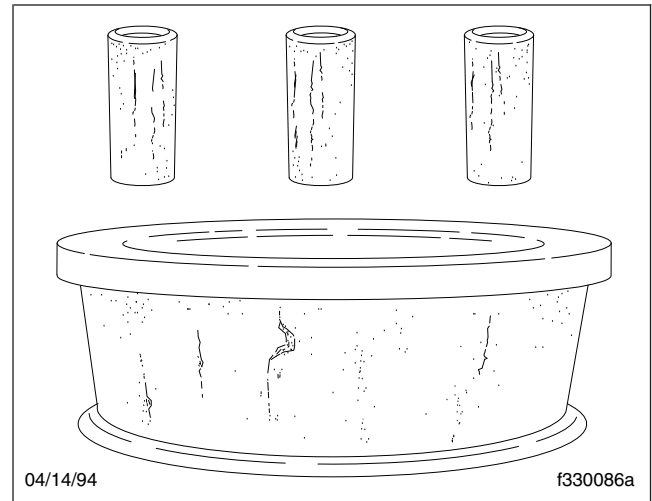

Fig. 8, Etching (Pitting) on Bearing Surfaces
- Etching or pitting on functioning surfaces. See Fig. 8.